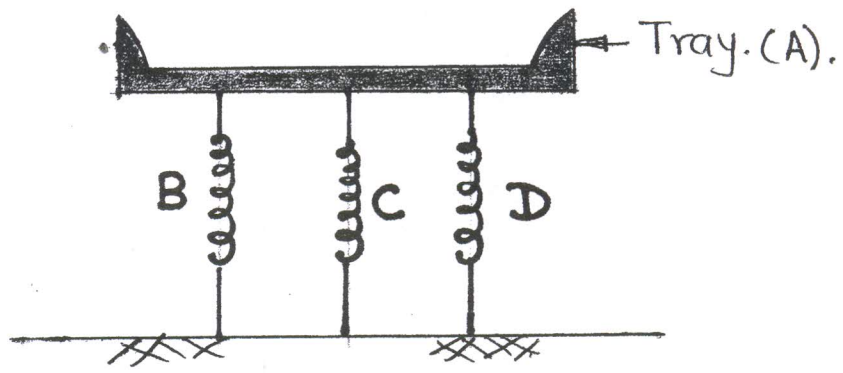

Fig. Q.10
Q. 10 A tray of mass ' m ' is attached to three springs as shown in Fig. Q.10. The period of vibration of the tray is 0.5 sec. After the center spring C has been removed, the period of vibration is observed to be 0.6 sec. If the stiffness of spring C is 125 N/m, determine the mass of the tray.